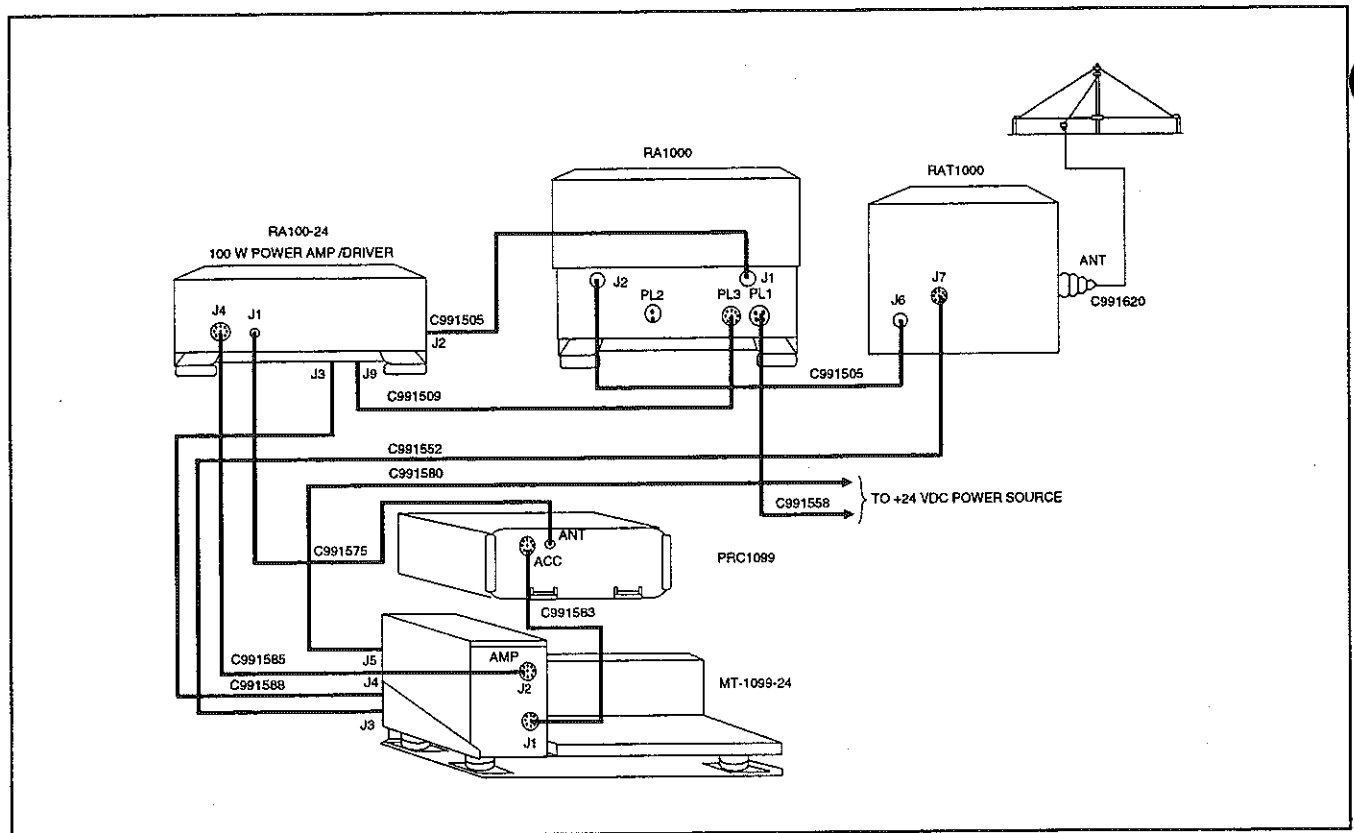

FIGURE B-11.
- a. The PRC1099A can be used in a mobile configuration with the RA1000 power amplifier as shown in Figure B-11.
6. Hook up the correct cables as shown in Figure B-11.
Referring to Figure B-11, cable C991580 going between the vehicular power source and the MT-1099 must be replaced with cable C991614; this cable connects the MT-1099 to the UPS100.
Also in Figure B-11, cable C991558 going between the vehicular power source and the RA1000 must be replaced with cable C991508; this cable connects the RA1000 to the UPS1000.